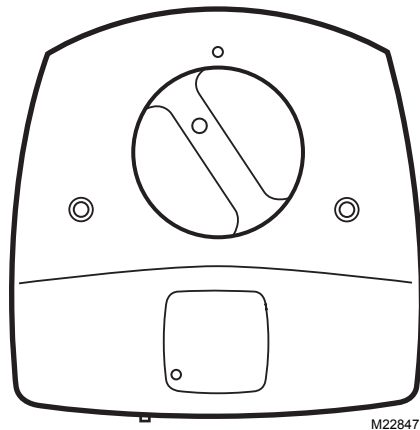

Fig. 13. Position bulb for insertion back into lamp base.
7. Insert the bulb into the base with the lamp light indicator at the eleven o'clock position. Continue pushing and gently rotating counterclockwise until the lamp handle inserts fully into the base. See Fig. 13.
7. Insert the lamp handle into the base with the lamp light indicator at the eleven o'clock position. Continue pushing and gently rotating counterclockwise until the lamp handle inserts fully into the base. See Fig. 13.